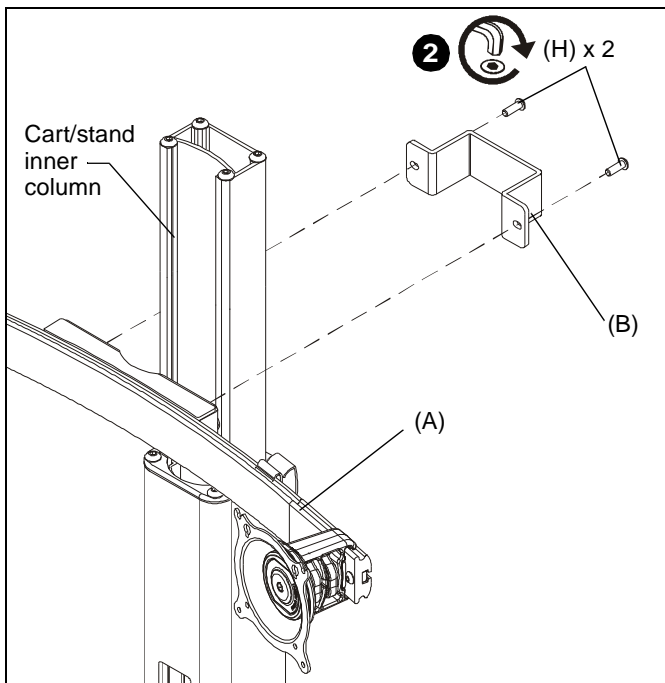

Figure 1
2. Fasten array clamp (B) around the cart/stand inner column and to the dual array assembly (A) using two 1/4-20 x 3/4" button head screws (H). (See Figure 1)